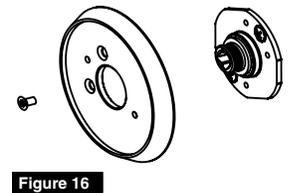

Figure 16
7. Tighten rose firmly onto adapter plate assembly by turning clockwise on plate threads. Align holes and install rose torx screw to plate assembly with security torx screwdriver. (Figure 16)